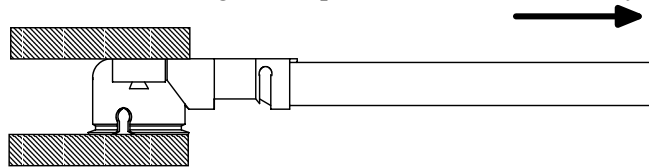

Fig.5
A. Testing : Pull the cable as shown in Fig.5 at a speed  $25 \pm 3$ mm/minutes by tensile strength machine.